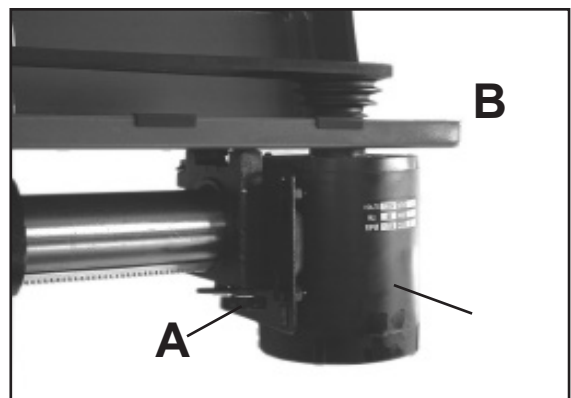

Figure 25
3. Release the tension on the belt by loosening the belt tension lock (A-Fig.25) and pull forward on the motor (B-Fig. 25).